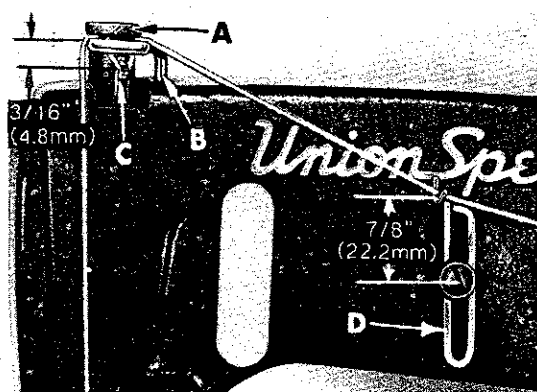

Fig. 14
Regulate the presser spring regulating screw (A, Fig. 14) so that it exerts only enough pressure on the presser foot to feed the work uniformly when a slight tension is placed on the fabric. Turning it clockwise increases the pressure, counterclockwise acts the reverse.
Turn handwheel in operating direction until the needle bar reaches its lowest position. Set needle thread take-up wire (B, Fig. 14) so that its thread contact surface is approximately 3/16 inch (4.8mm) above the center of the needle bar thread eyelet (C). Lower this setting for a smaller needle thread loop, raise for a larger loop. Set needle thread frame eyelet (D) so that it is approximately 7/8 inch (22.2mm) above centerline of its attaching screw (Fig. 14).